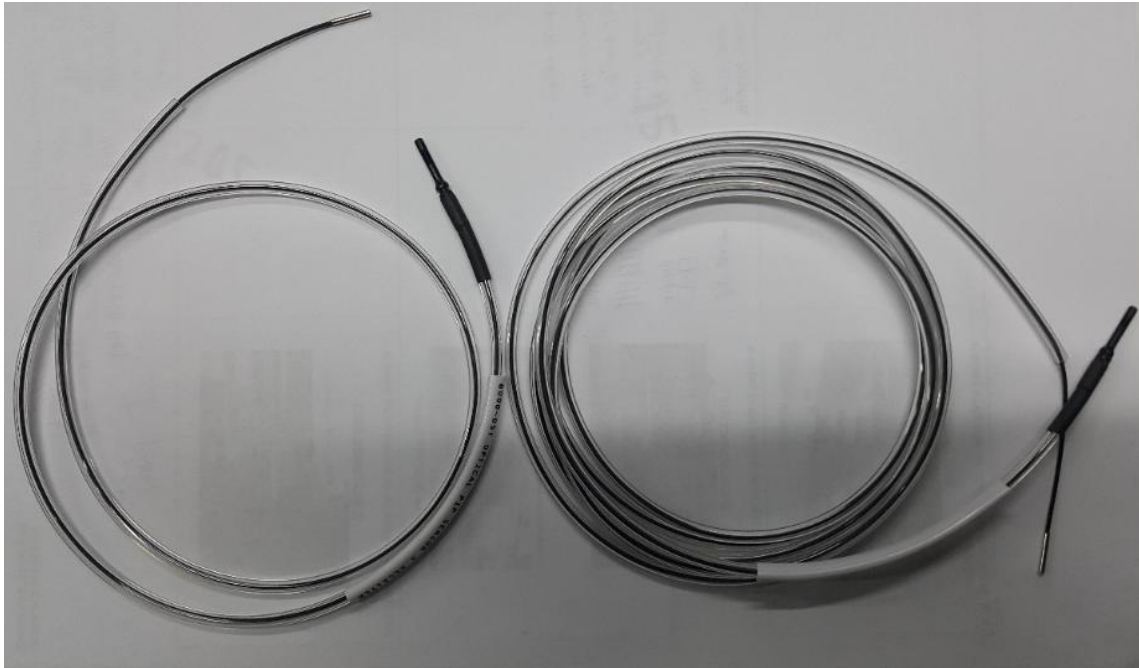

Figure 21 4XASP-A153 / 2000-0017 Right Slow PIP Cable
1. Install the new (4XASP-A153 / 2000-0017) S2EX Right Slow PIP Cable as shown below in Figure 21.